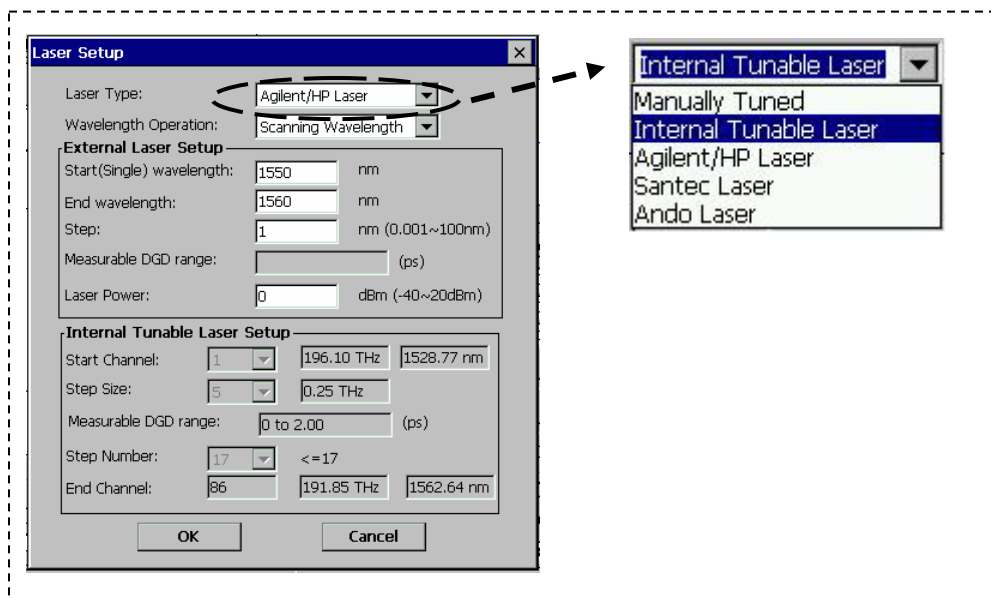

Figure 26 Wavelength scanning (Laser) setup for PDL measurement
- 1) Laser setup: If a wavelength dependent measurement (“**PMD/PDL:Jones Matrix**” or “**PMD/PDL:Mueller Matrix**”) is selected, a **Laser Setup** dialog box will pop up (Figure 26). Select the laser type from the pull-down menu. Available options include internal tunable laser, Agilent/HP laser, Santec laser, Ando laser, and manually tuned laser.
If “internal laser” is selected, the “**Internal Tunable Laser Setup**” box will be enabled. Set the “Start channel” (channel 1-89), “Step Size” (number of channels in each step) and “Step number” (number of steps in the scan) from the pull-down menus (Figure 26). After the scan parameters are set, the corresponding frequencies and wavelengths are calculated and displayed in the boxes next to the parameters.
If the external or manually tuned laser is selected, set the “Start wavelength”, “End wavelength”, “Wavelength step” size and “Laser output power” in the “**External Laser Setup**” box (Figure 26).